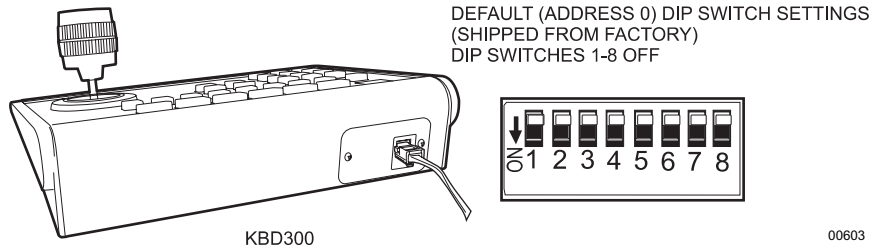

Figure 12. Data Cable Plugged into Local Keyboard
3. Set the keyboard DIP switches for the desired address for the local keyboard (refer to Figure 12 and Table D).